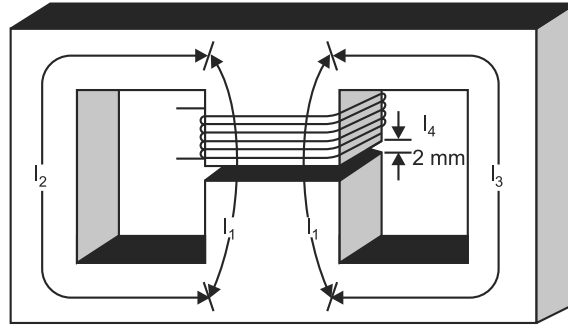

Fig. 8.19
**Example 8.18.** The magnetic core shown in Fig. 8.19 has the following dimensions :